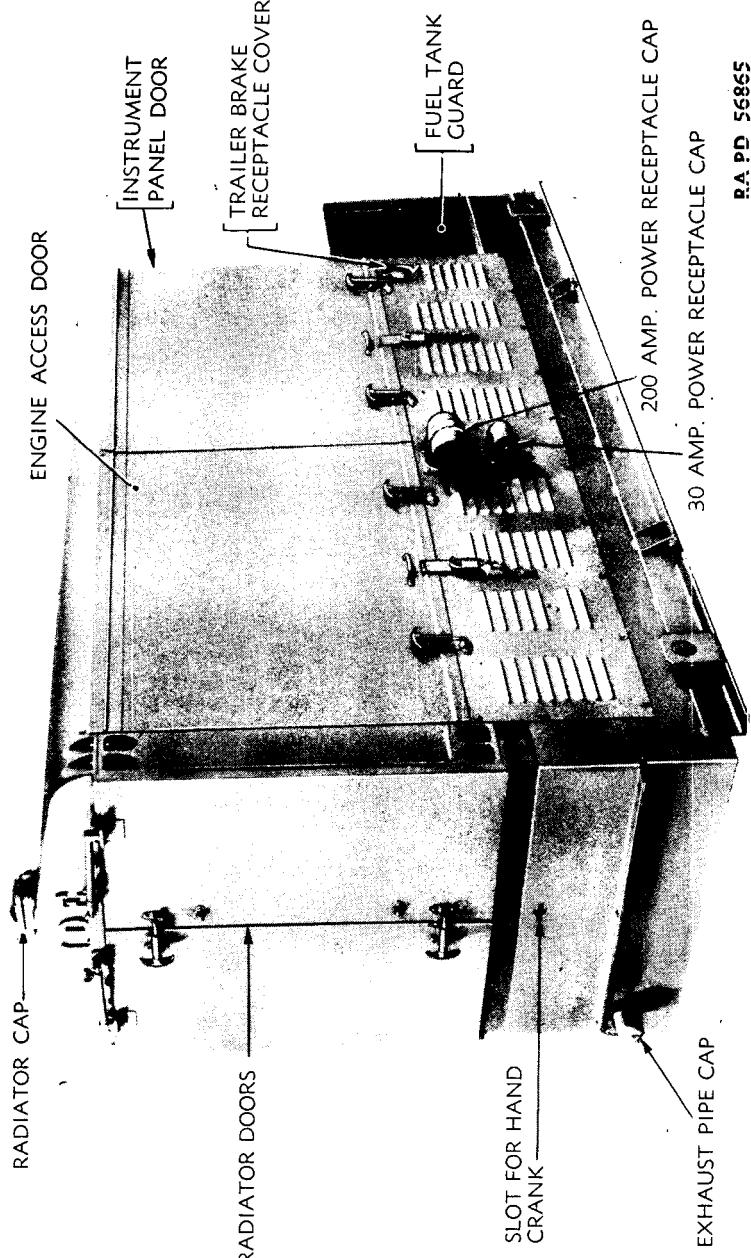

Figure 1—Generating Unit M7—Left Front
- a. The Generating Unit M7 (figs. 1, 2, and 3) is a gasoline engine actuated generator mounted on a specially designed rubber-tired trailer or on wood skids. The frame is of welded structural steel construction. It is bolted to the floor of the trailer. The engine and generator assembly is enclosed by a sheet metal canopy bolted to a base frame. Side doors give access to the instrument panel, engine, generator, and other parts within the canopy (figs. 4 and 5).